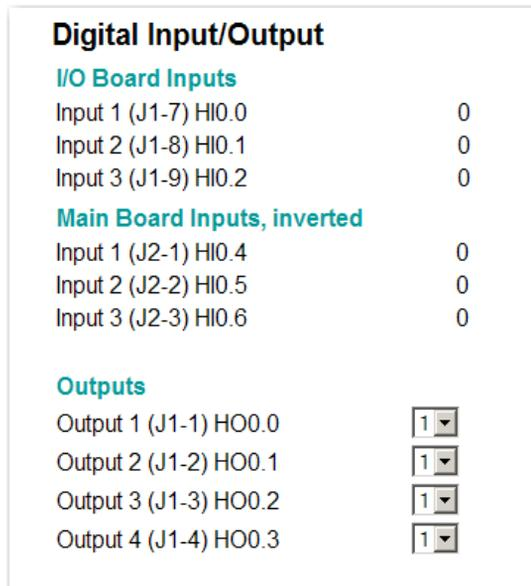

FIG. 262 DIGITAL INPUT/OUTPUT PAGE
Step 2. Click on Digital I/O Card. The Digital Input/Output Page appears. (See Fig. 262)